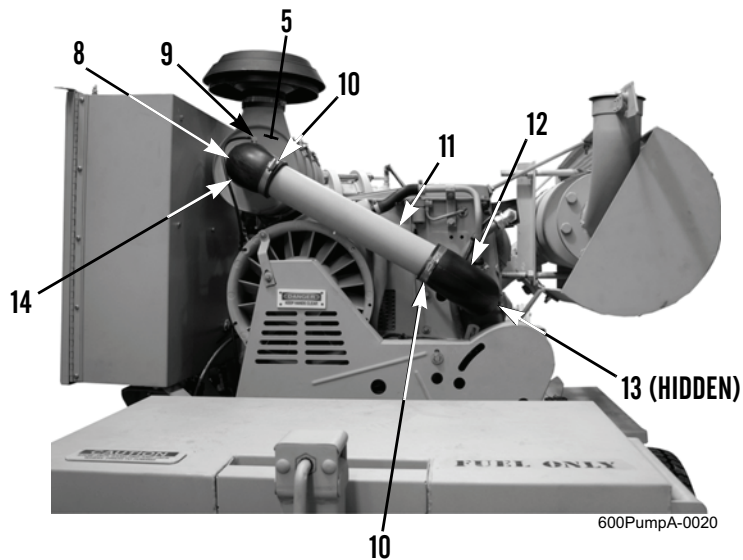

Figure 5. Air Cleaner Housing Assembly - Front of Engine.
1. Disconnect air hose (Figure 5, Item 8) from fitting (Figure 5, Item 9) on air cleaner housing (Figure 5, Item 5).
2. Remove two clamps (Figure 5, Item 10) and disconnect rubber elbow (Figure 5, Item 14) from air cleaner housing (Figure 5, Item 5) and tube (Figure 5, Item 11).
3. Remove two clamps (Figure 5, Item 10) and disconnect rubber elbow (Figure 5, Item 12) from tube (Figure 5, Item 11) and turbocharger intake (Figure 5, Item 13).
4. If necessary, remove fitting (Figure 5, Item 9) from air cleaner housing (Figure 5, Item 5).